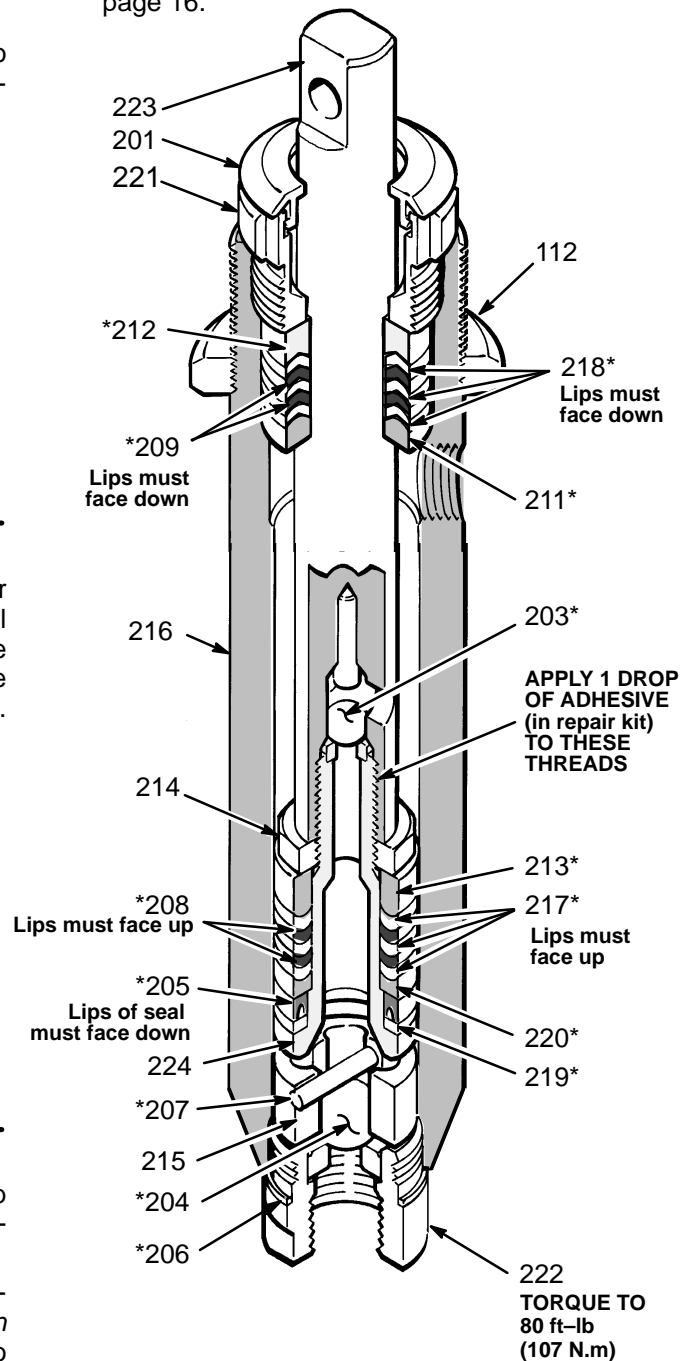

Fig 15
Disassembly. See Fig 15, except where noted.
- B. Clean all parts thoroughly. Check the outside of the piston rod (223) and the inside of the cylinder (216) for scoring or scratches, which prevent the packings from sealing properly. Replace all worn parts.
- C. Alternate polyethylene and leather packings as shown in Fig 15, starting with the polyethylene packings. Notice that:
1. Stack the backup washer (219*), U-cup seal (205*) *lips down*, and female gland (220*), alternate the polyethylene and leather v-packings (217*, 218*) *lips up*, and stack the male gland (213*) one at a time onto the piston valve (224). See Fig 15.
5. Stack the male gland (211*), alternate the polyethylene and leather v-packings (218*, 209*) *lips down* and stack the female gland (212*) one at a time into the top of the cylinder. See Fig 15.
6. Loosely install the packing nut (221) and plug (201).
7. Insert the oiled piston rod (223) into the bottom of the cylinder.
8. Assemble the intake valve. Use a new gasket (206*). Screw the valve into the cylinder and tighten to 80 ft-lb (107 N.m). See Fig 15.
9. Screw down the cylinder locknut (112) until it is finger tight at the bottom of the external cylinder threads. See Fig 15.